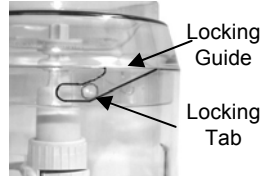

Fig. 3
5. Place the food that you want to process into the chopping bowl and place the safety cover/splash guard on the bowl. Turn the safety cover/splash guard clockwise to make sure that it locks in place. Make sure that the locking tabs on the cover slide into the locking guides on the chopping bowl. (Fig.3)